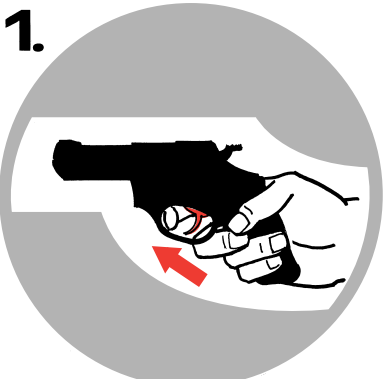

**FIGURE 3
1. Press the crane latch and guide cylinder out of frame to the left to its loading position (See Figure 3).